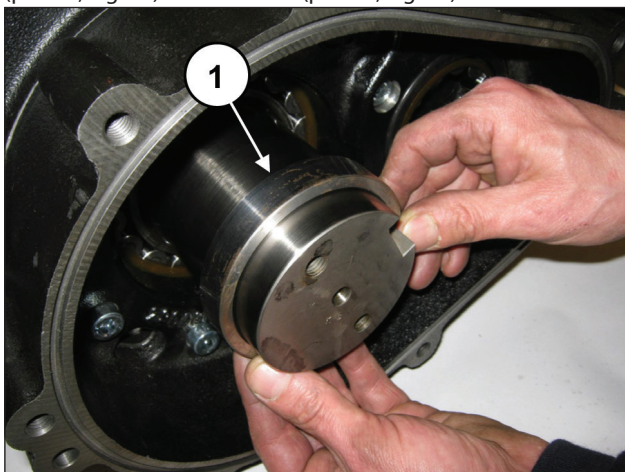
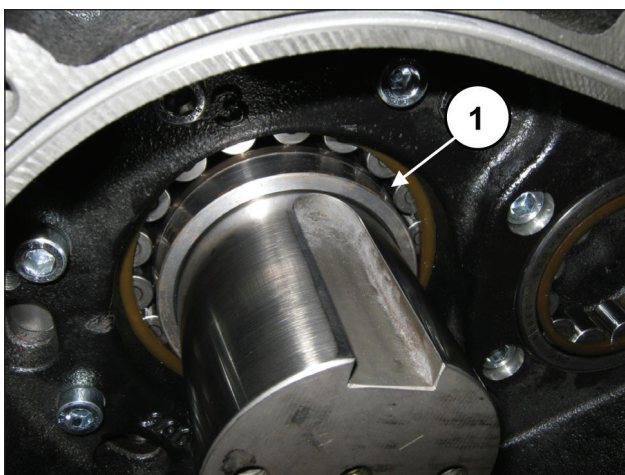

Fig. 74
Fig. 75
Calibrate the screws with a torque wrench as indicated in chapter 3 SCREW TIGHTENING CALIBRATION. Insert the ring gear support ring in the crankshaft shank (pos. ①, Fig. 74) to end stroke (pos. ②, Fig. 75).